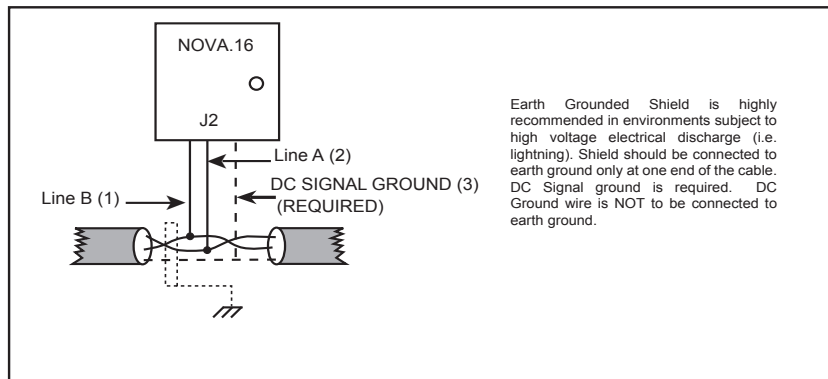

FIGURE 6
- The total RS-485 cable distance, including the distance between all NOVA.16s, may be up to 4000’. Figure 6 shows how each NOVA.16 is connected to the RS-485 bus.